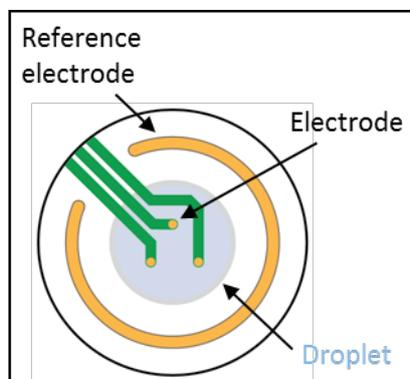

Figure 5.1. Droplet placement.
2. Carefully pipette a droplet of 4 μ l of the 50 μ g/ml fibronectin coating solution to the center of each well of the MEA plate covering the electrodes. See Figure 5.1 for correct droplet placement.
17. Place a 4µl droplet of the cell suspension (20,000 cells) to the center of each well, covering the electrodes. See Figure 5.1 for correct droplet placement.